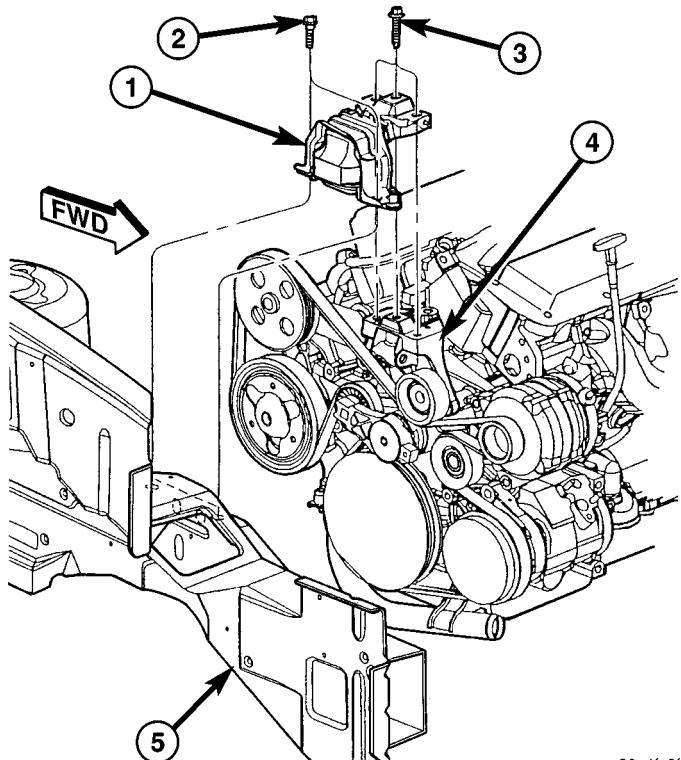

Fig. 94 Right Engine Mount
- (1) Remove air cleaner housing lid and clean air hose from throttle body.
- (2) Remove air cleaner element and housing.
- (3) Disconnect make-up air hose from cylinder head cover.
- (4) Remove the load on the right engine mount by carefully supporting the engine assembly with a floor jack.
- (5) Disconnect electrical harness support clips from engine mount bracket.
- (6) Remove the bolts attaching the engine mount to the frame rail (Fig. 94).
- (7) Remove the three bolts attaching the engine mount to the engine bracket (Fig. 94).
- (8) Remove the right engine mount (Fig. 94).
- (1) Install engine bracket (if removed). Tighten bolts to 33 N·m (24 ft. lbs.).
- (2) Position right engine mount and install frame rail to mount bolts (Fig. 94). Tighten bolts to 68 N·m (50 ft. lbs.).
- (3) Install the mount to engine bracket bolts and tighten to 54 N·m (40 ft. lbs.). (Fig. 94)
- (4) Connect electrical harness support clips to engine mount bracket.
- (5) Remove jack from under engine.
- (6) Connect make-up air hose to cylinder head cover.
- (7) Install air cleaner housing and element.
- (8) Install air cleaner housing lid and clean air tube to throttle body.